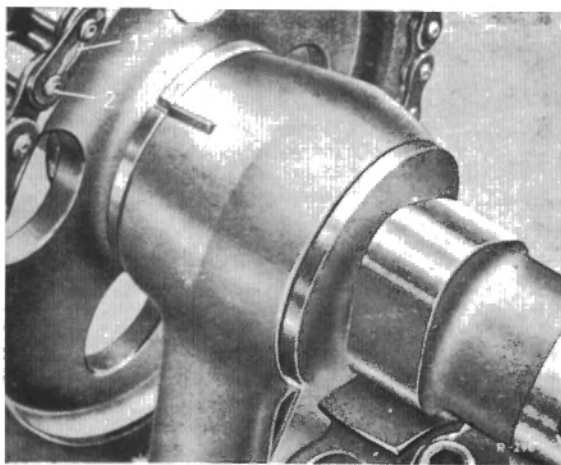

Fig. 05-15/1
5. In order to remove the old chain grind off the two chain rivets of one link and remove the link. Connect the new chain by means of a jointing link to the old chain and properly install the spring clip (locking clip) (see Fig. 05-15/1).
Insert the jointing link (2) from front to rear. Insert the spring clip (1) with its closed end pointing in the direction of rotation (see Fig. 05-15/1).